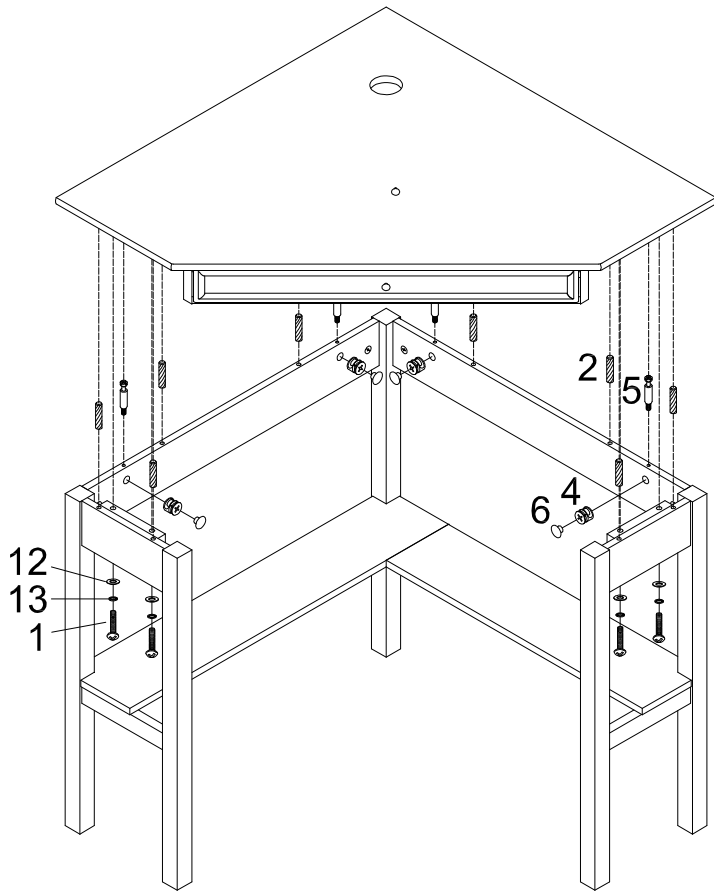

Figure 13
Insert screws (3) into holes on assembled unit from figure 13 as shown.